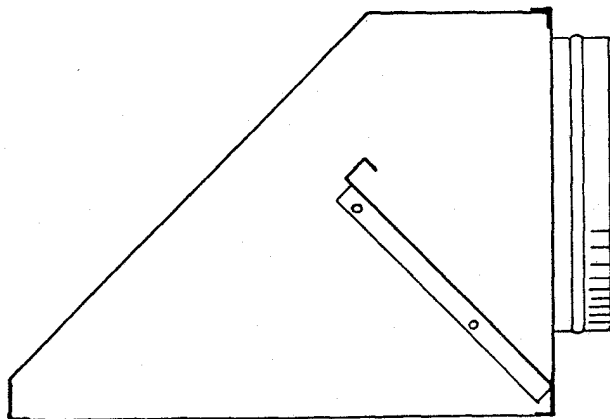

FIGURE 1
**HOOD ASSEMBLY** The air discharge hood which goes on top of the spray chamber is shipped disassembled. Assemble it as shown in figure 1, paying particular attention not to get the internal baffle backwards. Note that the discharge opening can face either direction.